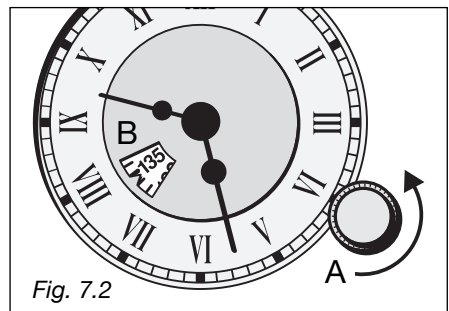

Fig. 7.2
- Set the cooking time by rotating knob "A" anticlockwise until desired time in window "B" coincides with the indicator (Fig. 7.2).